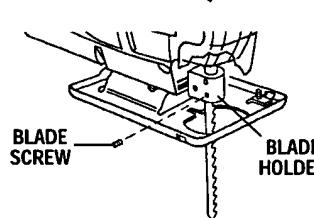

FIG. 6
1. For Manual Scrolling and non scrolling use, insert the blade to full depth, with blade in the center position of blade holder directly under the plunger as shown (Fig. 6).